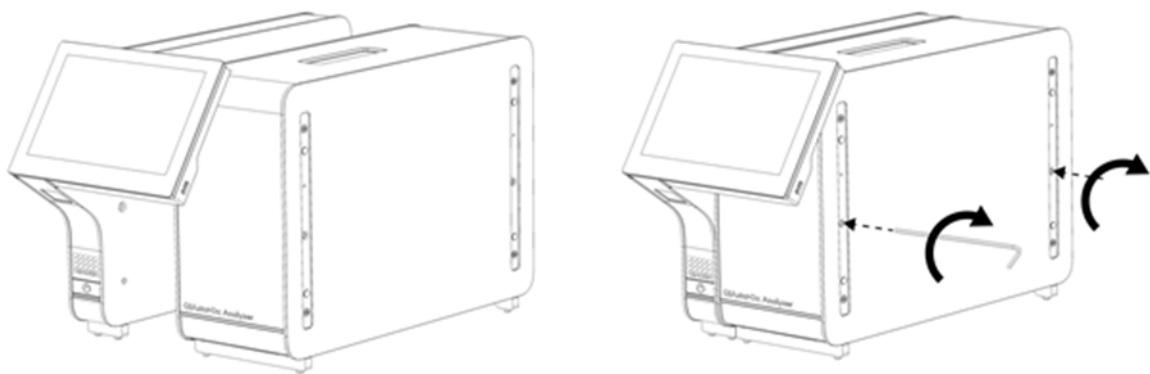

Figure 6. Attaching the Operational Module to the Analytical Module.
3. Remove the Operational Module from its box and attach it to the left side of the Analytical Module. Tighten the screws using the Analytical-Operational Module Assembly Tool delivered with QlAstat-Dx Analyzer 2.0 (Figure 6).